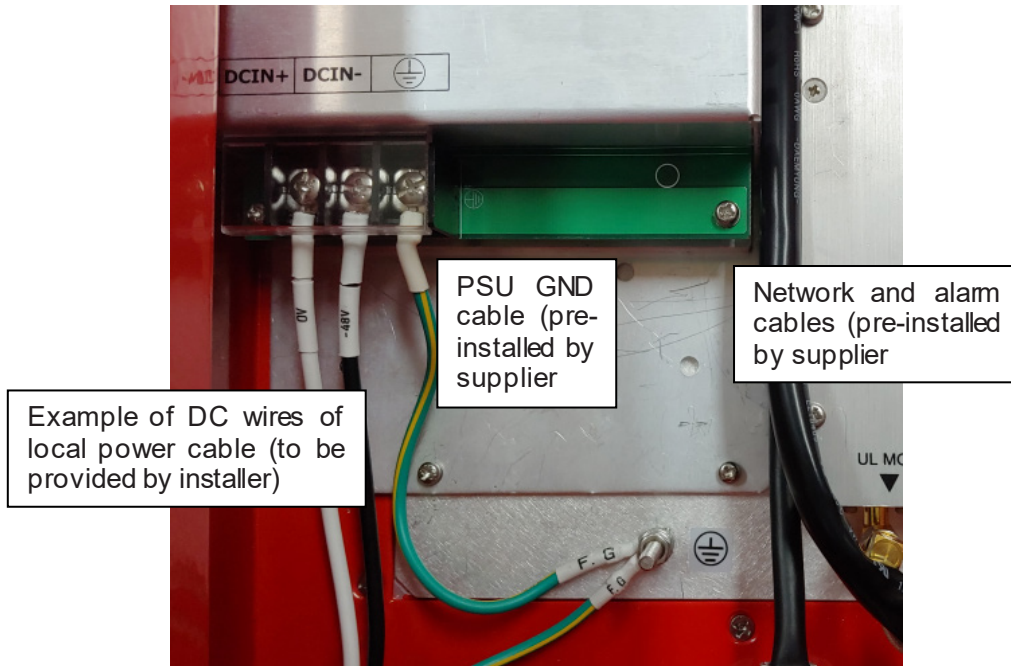

figure 4-5 DC wires, installed
After the system has been grounded as explained in section 4.2.4, the neutral and hot wire (AC system) or the negative and positive wire (DC system) must be connected to the internal power supply unit as described in table 4-2 *Power supply connection (AC)* and table 4-3 *Power supply connection (DC)*. To connect the wires remove the protective plastic cover, loose the desired screw and connect the spade terminals as illustrated in *figure 4-4 AC wires, installation example* or *figure 4-5 DC wires, installed*, respectively.